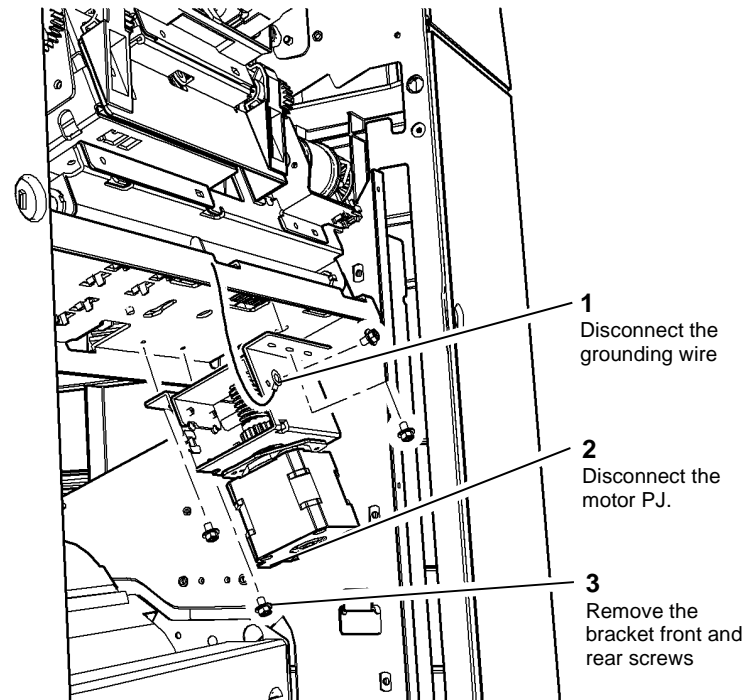

Figure 1 Offset motor and gears
- Remove the offset motor and gear assembly, Figure 1.